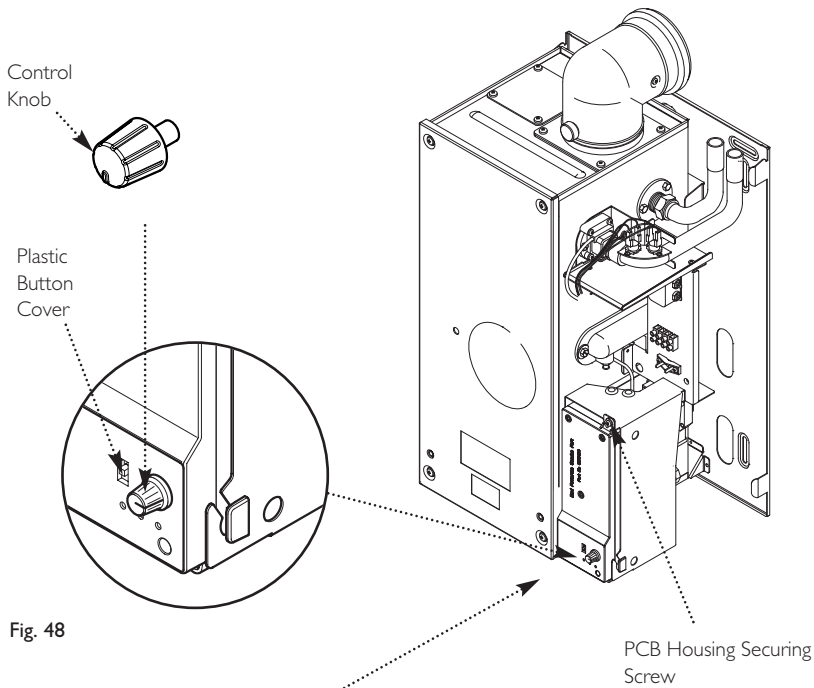

Fig. 48
13.4 PCB (Figs. 48 & 49)
1. Pull the control knob off the spindle and remove the plastic button cover. Refit them onto the new PCB (Fig. 48).